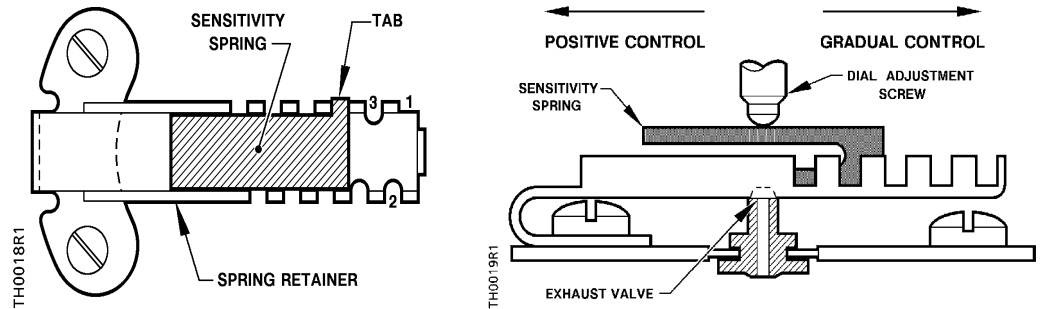

Figure 8. Sensitivity Spring Setting.
3. Lightly press, but do not bend the spring retainer. (See Figure 8.)
4. Move the sensitivity spring to the new position. See Figure 8. Table 2 gives the sensitivity spring tab location and the corresponding sensitivity value.